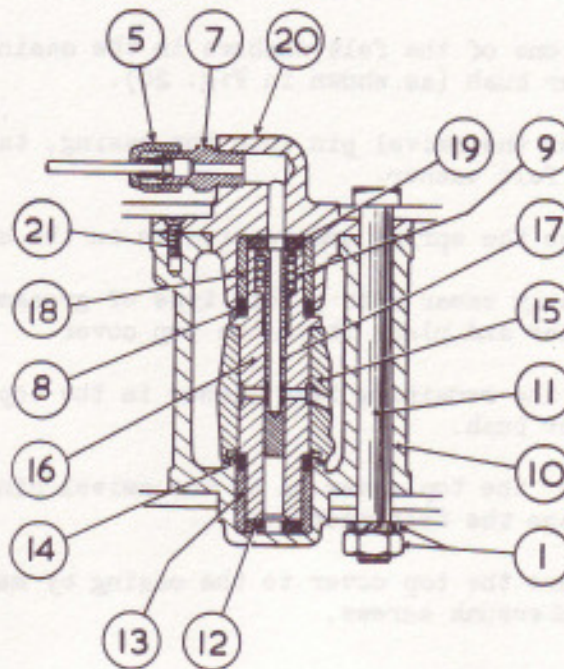

Fig.20. Section through swivel pin
Oil under pressure from the centralised chassis lubrication system is delivered by an external brass pipe to a non-restricted straight junction (7 Figs. 19 & 20), fitted to the top cover (20). The oil then passes through drillings in the cover, down the passage in and through the two small diameter holes in the stem of the spring loaded restrictor (17) and supplies the upper and lower bushes (18 & 13) of the swivel pin (16) through the clearance between the loose fitting restrictor and the smaller of the three internal bores in the swivel pin, the clearance being so arranged to meter the correct amount of oil. The swivel pin is also provided with two oil holes as shown in Fig. 20 which register through the medium of annular grooves, with the two small oil holes in the stem of the restrictor and an oil passage in the centre steering lever (15). By this means, oil is also delivered under pressure, via brass pipes without restrictors, to the inner ball joints of the cross steering tubes and the ball joint at the front end of the side steering tube.
- (iv) Remove the nuts and spring washers (situated on the underside of the "jacking" plate) from the three bolts (11 Fig. 20). Ease back the two nuts (4 Fig. 19) on each side of the bracket and then tap up the three bolts sufficiently to allow removal of the unit from the frame.
- c) Fit one of the felt washers in the casing i.e. against the lower bush (as shown in Fig. 20).